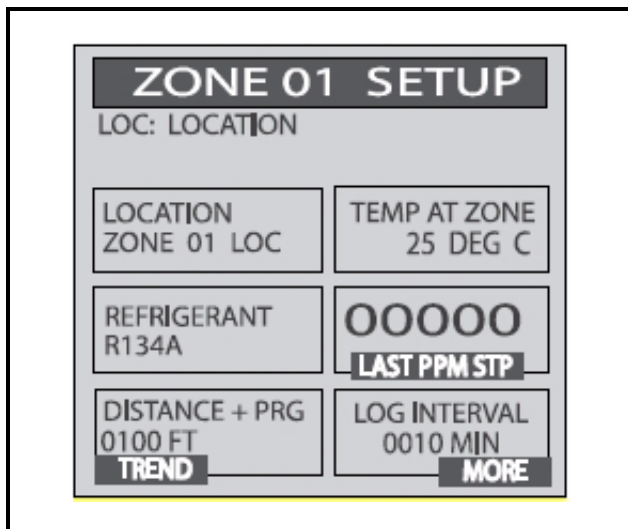

Figure 8-1 - Zone Setup Screen 1
The RLDS retains a data log of 100 measurements for each zone. The log interval is the number of minutes from 1 to 1440 between each log point. This parameter can be changed from *Zone Setup screen 1* (Figure 8-1).
Select the **MORE** option at the bottom right hand side of the screen (*Figure 8-1*) to continue to the next screen containing more options. This screen displays the peak PPM value in the upper side of the screen.
- **SETUP** - using the right arrow key, navigate to the *Zone Setup screen 1* (*Figure 8-1*). This enables review of the zone setup parameters and accesses the *Trend screen*.